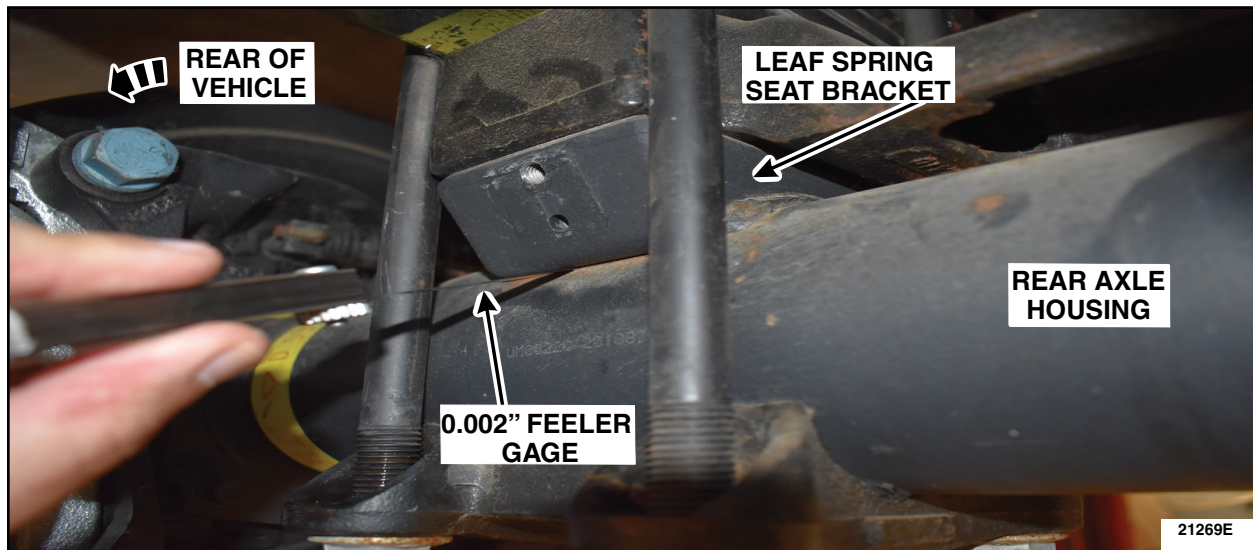

FIGURE 2
6. Using a 0.002" feeler gage measure the gap along the rear of the leaf spring seat bracket to the rear axle housing assembly. Is the gap greater than 0.002" on either the LH or RH side? See Figure 2.